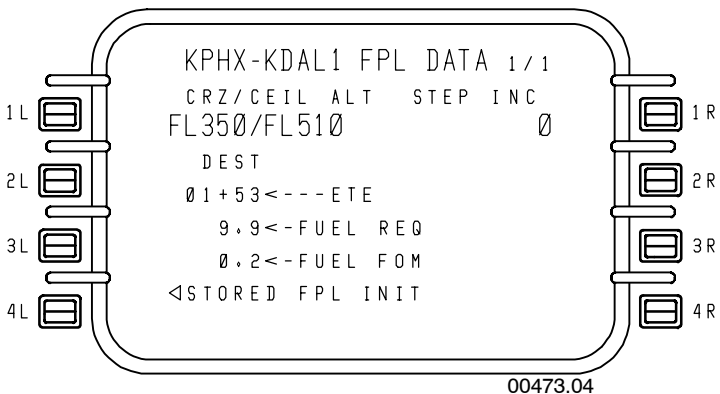

Figure 5-47
- **FPL DATA 1/1** - Figure 5-47 shows the stored flight data available. The title contains the name of the flight plan being calculated. The page is similar to the PERF DATA 1/4 page.